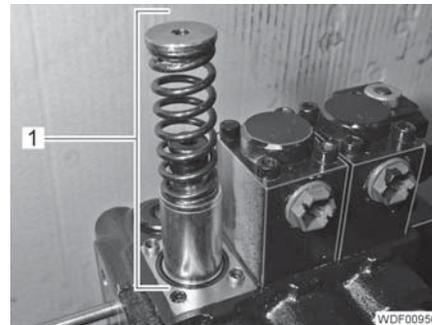

Fig. 179 Spring assembly
- Remove the spring assembly (Fig. 179,1) (if present).
- Position the spring assembly (Fig. 179,1) (if present).